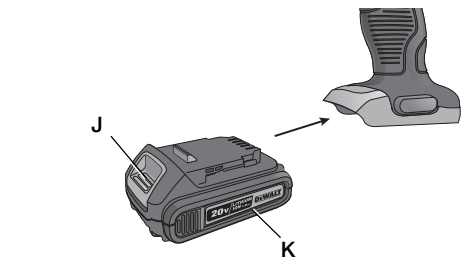

FIG. 3
### Charging Procedure (Fig. 3)
- Insert the battery pack (K) into the charger, as shown in Figure 3, making sure the pack is fully seated in charger. The red (charging) light will blink continuously, indicating that the charging process has started.